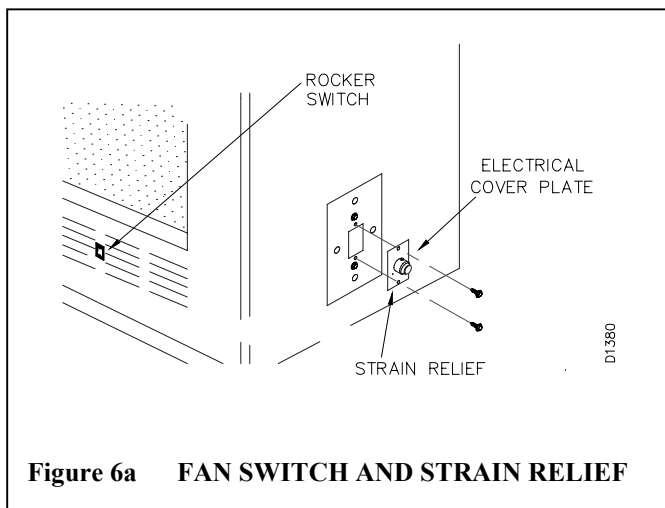

Figure 6a FAN SWITCH AND STRAIN RELIEF
A fan kit assembly is preinstalled in this fireplace. Use of blowers or fans other than manufactured by DESA voids the warranty. The fan is operated by pressing the rocker switch located at the lower right hand corner of the fireplace face. Fan kit electrical connections are made through the electrical cover plate located on the side of the fireplace as shown in figure 6a.
- Remove electrical cover plate (with strain relief) from the fireplace by removing the two sheet metal screws as shown in figure 6a.